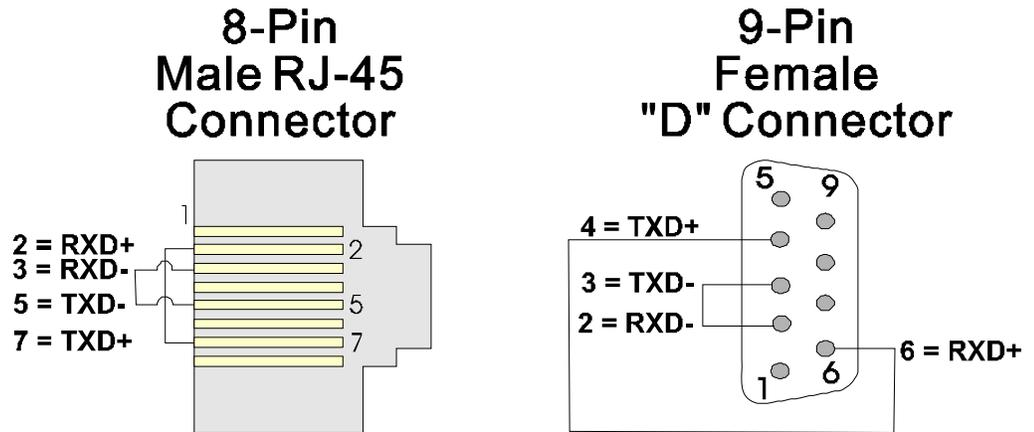

Figure 5-22. RS-485 Loop-back Plugs
- Port 3 (RS-485) use an 8-pin male RJ-45 loop-back plug (shown in left side of *Figure 5-22*).
- Port 4 (RS-485) use a 9-pin female D-type loop-back plug (shown in right side of *Figure 5-22*).